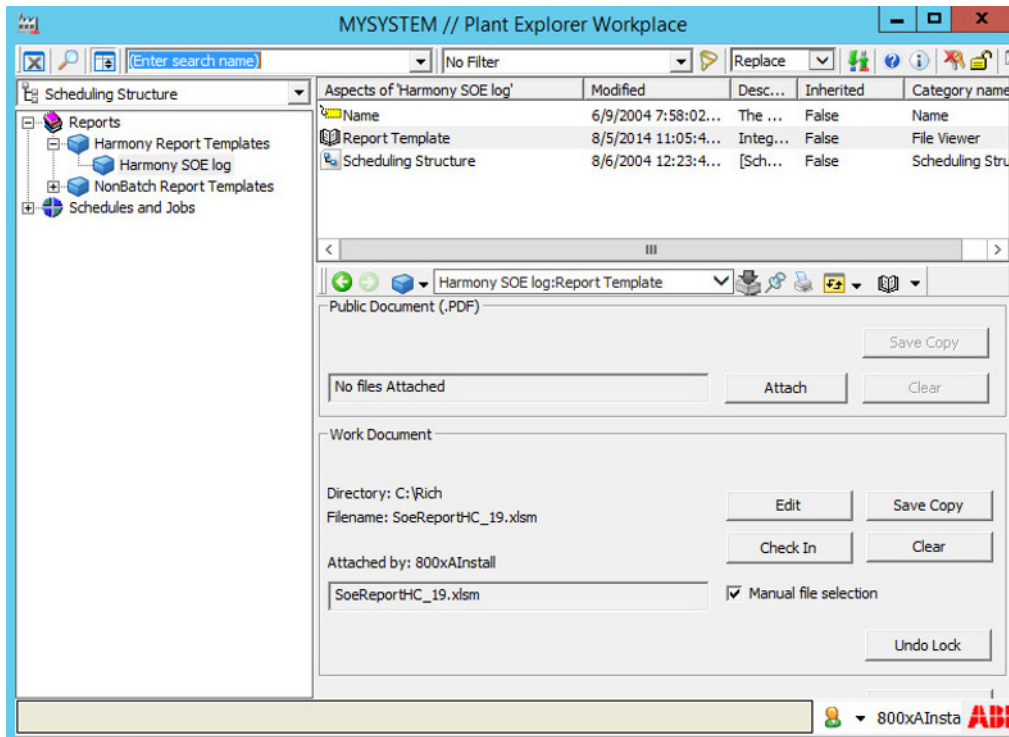

Figure 27. Harmony SOE Log Template Location
7. Next, select the **report template** to be used. To export a report, click the **Report Template Path** button and select the **Harmony SOE log** template. The location of this template is shown in Figure 27, Harmony SOE Log Template Location.